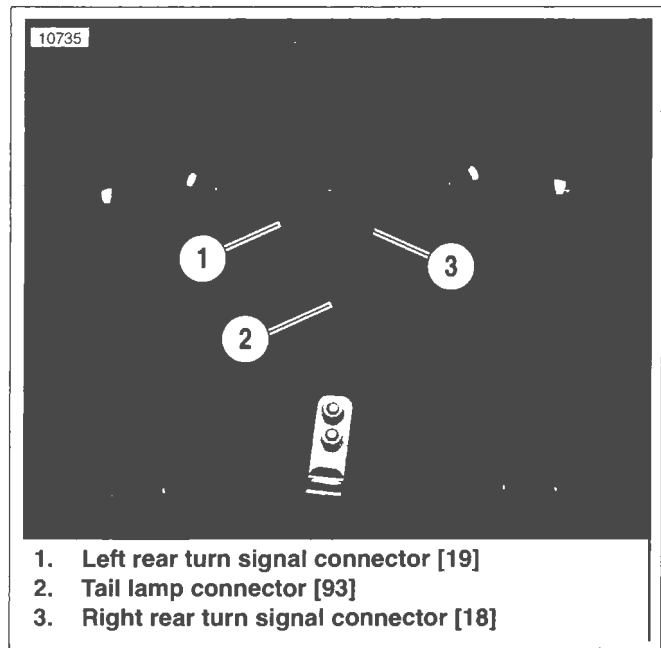
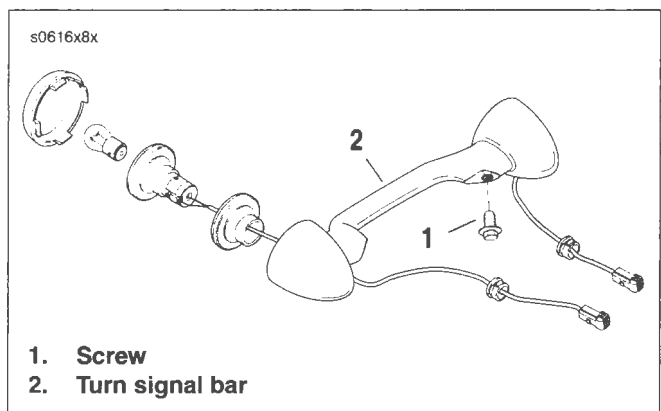

Figure 8-66. Turn Signal Connectors
Figure 8-67. Rear Turn Signals: FLSTN
3. See Figure 8-66. Disconnect left (1) [19] and right (3) [18] turn signal connectors.
5. See Figure 8-67. Remove screws (1) to release turn signal bar (2) from fender.
6. Install **new** turn signal bar. Tighten screws (1) to 84-144 **in-lbs** (9.5-16.3 Nm).
8. See Figure 8-66. Connect left (1) [19] and right (3) [18] turn signal connectors.